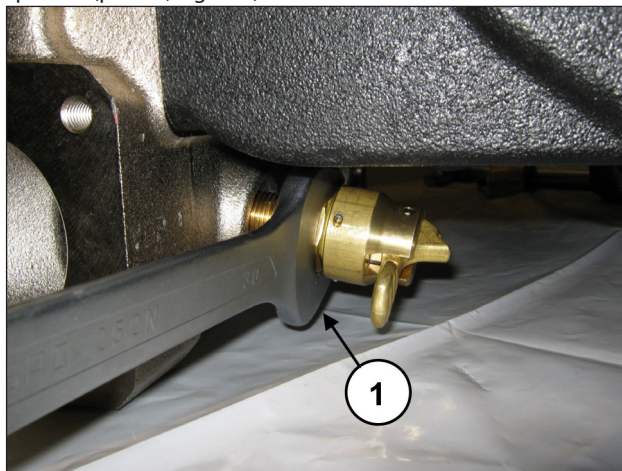

Fig. 139
Unscrew the valve opening device by means of a 30 mm spanner (pos. ①, Fig. 139).